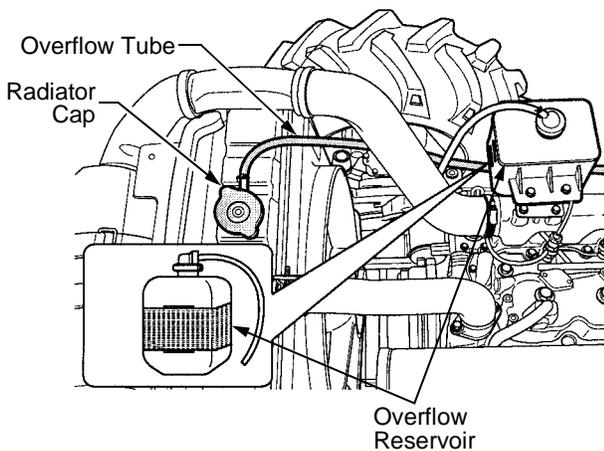

Figure 66
Check the coolant level in the overflow reservoir before each use. See Figure 66.
- Locate the radiator cap beneath the access door at the forward end of the hood. Turn the radiator cap counterclockwise to the first stop to release any pressure. Refer to Figure 66.